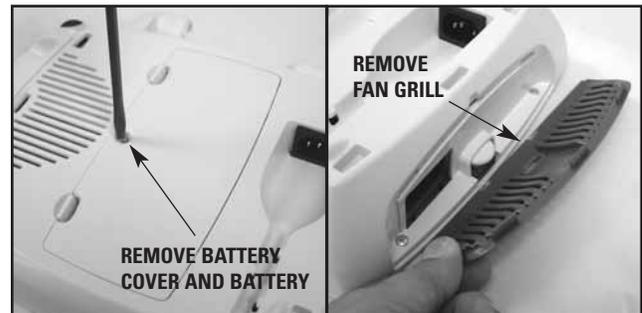

FIGURE 6.2
4. Remove Battery Cover with the Flat Blade Screwdriver and remove Battery from the system if equipped. See Figure 6.2.
5. Remove the Rear Fan Grill from the system to gain access to the two rear mounting screws. See Figure 6.2.